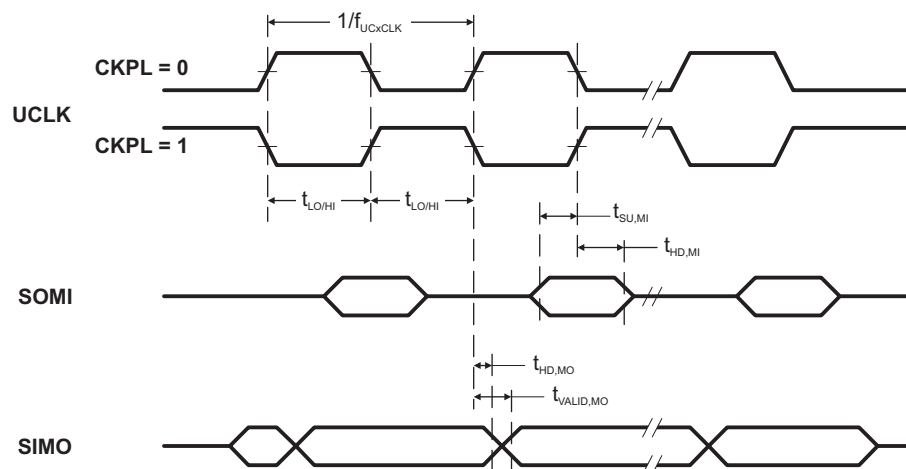
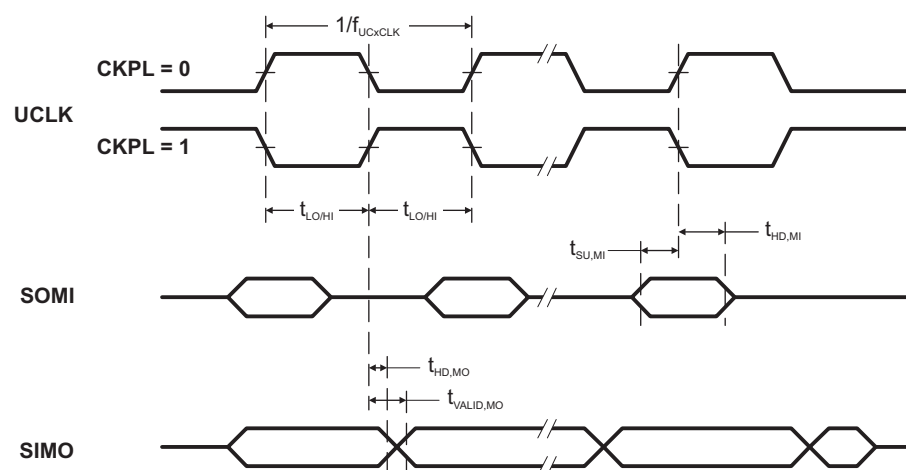

Figure 7. SPI Master Mode, CKPH = 0
Figure 8. SPI Master Mode, CKPH = 1
(see Note ⁽¹⁾, Figure 7 and Figure 8)
- (2) Specifies the time to drive the next valid data to the SIMO output after the output changing UCLK clock edge. See the timing diagrams in Figure 7 and Figure 8.
- (3) Specifies how long data on the SIMO output is valid after the output changing UCLK clock edge. Negative values indicate that the data on the SIMO output can become invalid before the output changing clock edge observed on UCLK. See the timing diagrams in Figure 7 and Figure 8.
(1) $f_{UCXCLK} = 1/2t_{LO/HI}$ with $t_{LO/HI} \geq \max(t_{VALID,MO(Master)} + t_{SU,SI(USCI)}, t_{SU,MI(Master)} + t_{VALID,SO(USCI)})$.For the master's parameters $t_{SU,MI(Master)}$ and $t_{VALID,MO(Master)}$ see the SPI parameters of the attached slave.(2) Specifies the time to drive the next valid data to the SOMI output after the output changing UCLK clock edge. See the timing diagrams in Figure 7 and Figure 8.(3) Specifies how long data on the SOMI output is valid after the output changing UCLK clock edge. See the timing diagrams in Figure 7 and Figure 8.